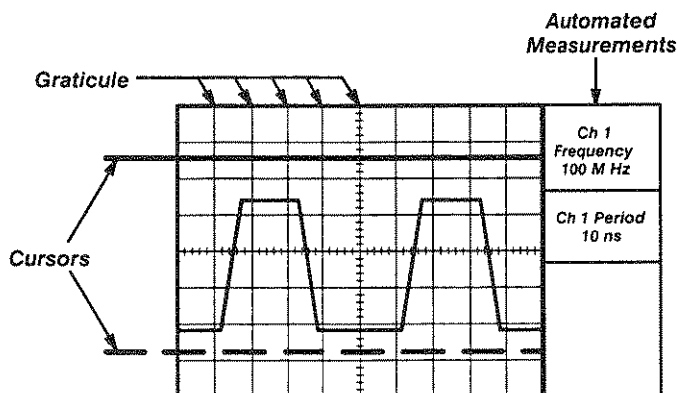

Figure 2-4: Examples of Three Measurement Classes
- The **measurement** system, which provides numeric information on the displayed waveforms. There are three measurement classes: graticule, cursor, and automated (Figure 2-4). See page 2-25.